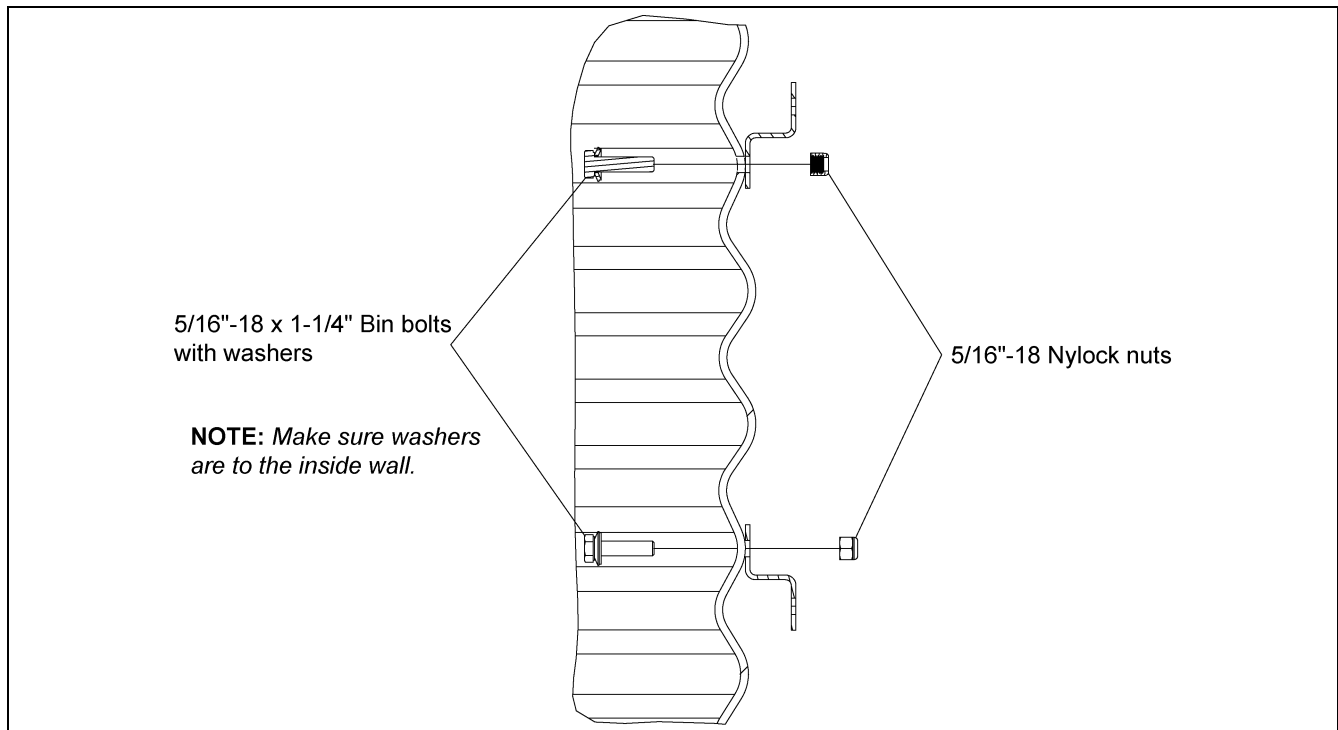

Figure 3B
7. Insert three (3) 5/16"-18 x 1-1/4" bolts through the sidewall, washer to the inside of the sidewall sheet, through the two (2) brackets and fasten together with three (3) 5/16"-18 nylock nuts. (See Figure 3B.)